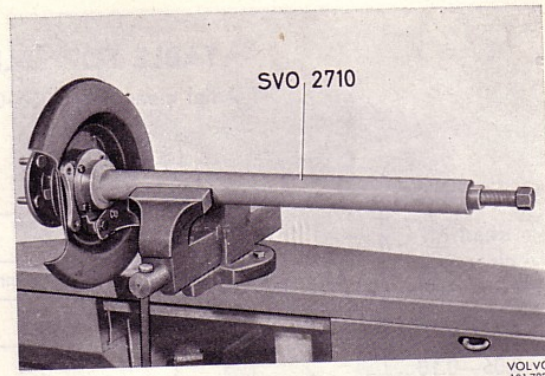

Fig. 20. Removing drive shaft bearing
7. Secure tool SVO 2710 in the vice. Shove in the drive shaft and fit the attaching bolts for the brake backing plate and retainers. Pull loose the bearing with the puller, see Fig. 20. Then remove the brake backing plate and retainers.